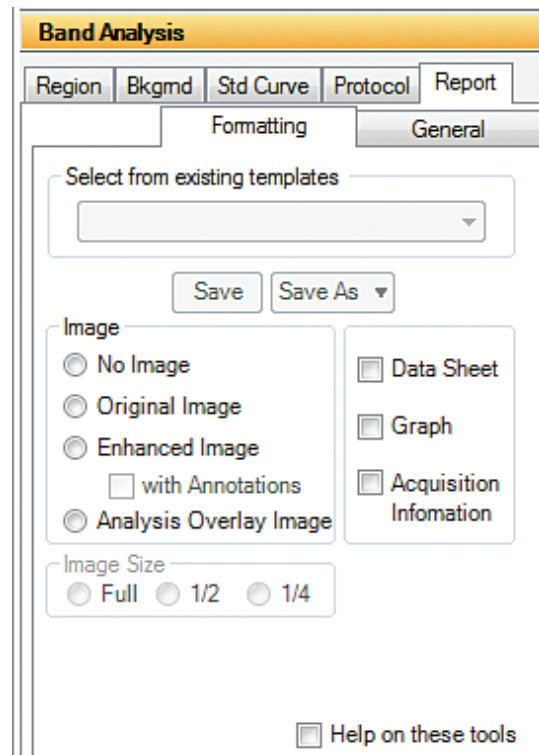

Figure 16. The Band Analysis Module showing the Report tab.
8. Generating a Report. The Report tab is used for creating a report for archiving and saving your image and analysis in a single document (Figure 16). If you have an existing template you have previously saved, you can select it from the existing templates pull down menu. Select which image you want on your report and the size of the image you want (1/4 is the default size). Next, select the type of data you would like in your report (data sheet, graph and/or acquisition information). You